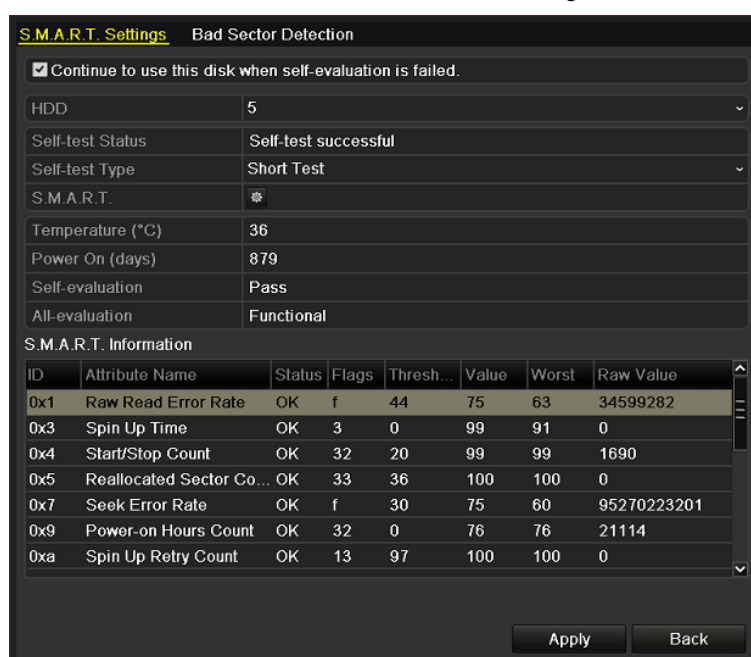

Figure 10. 8 S.M.A.R.T Settings Interface
2. Select the HDD to view its S.M.A.R.T information list, as shown in Figure 10. 8.